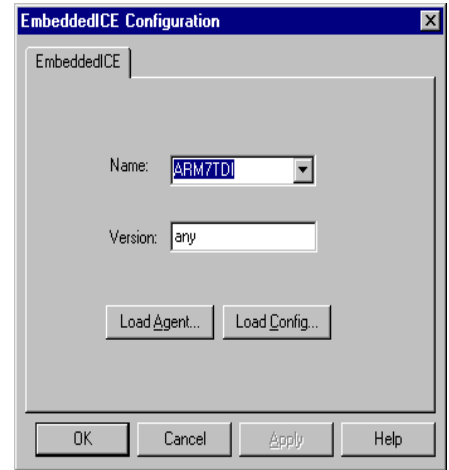

Figure 3-20 Configuration of EmbeddedICE target
1. Select **Configure EmbeddedICE** from the **Options** menu. The configuration dialog is displayed (Figure 3-20 on page 3-61).